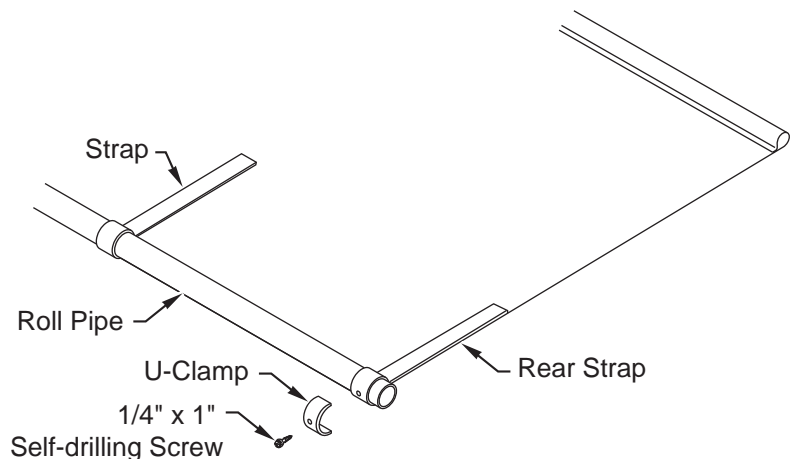

Figure 71
3) **See Figure 71.** At each strap secure tarp to roll pipe with U-clamp and #14 x 1 PPH self drilling screw.